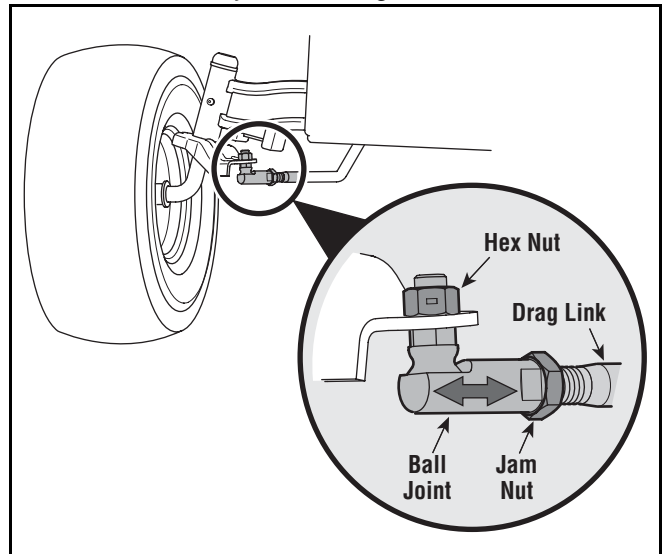

Figure 14
1. Loosen the jam nut found on the drag link at the rear of the ball joint. See Figure 14.
2. Remove the hex nut on the top of ball joint. See Figure 14.
2. Clean the area around the oil fill cap/dipstick to prevent debris from entering the crankcase. Refer to Figure 14.